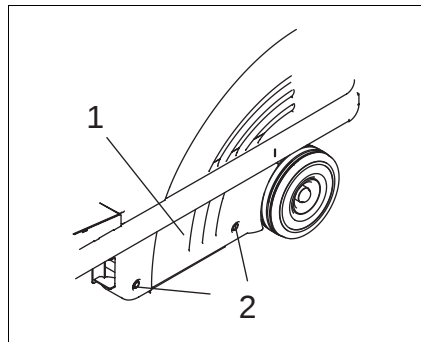

Fig. 12 Remove cover
- Open locks (Fig. 12/2) by enclosed
- Remove cover (Fig. 12/1)